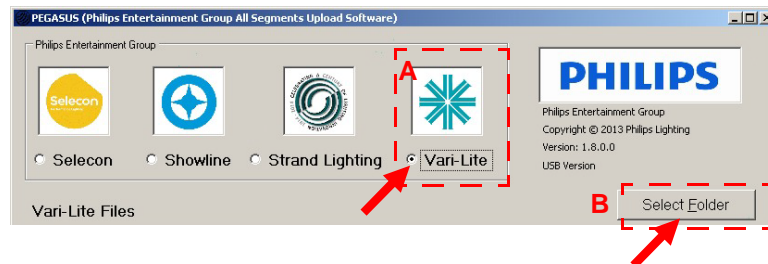

Figure 3-9: PEGASUS Software Selection Screen
- Select Vari-Lite for luminaire type (as shown in Figure 3-9).
- As indicated in Figure 3-9, click on Select Folder button to open browser window.